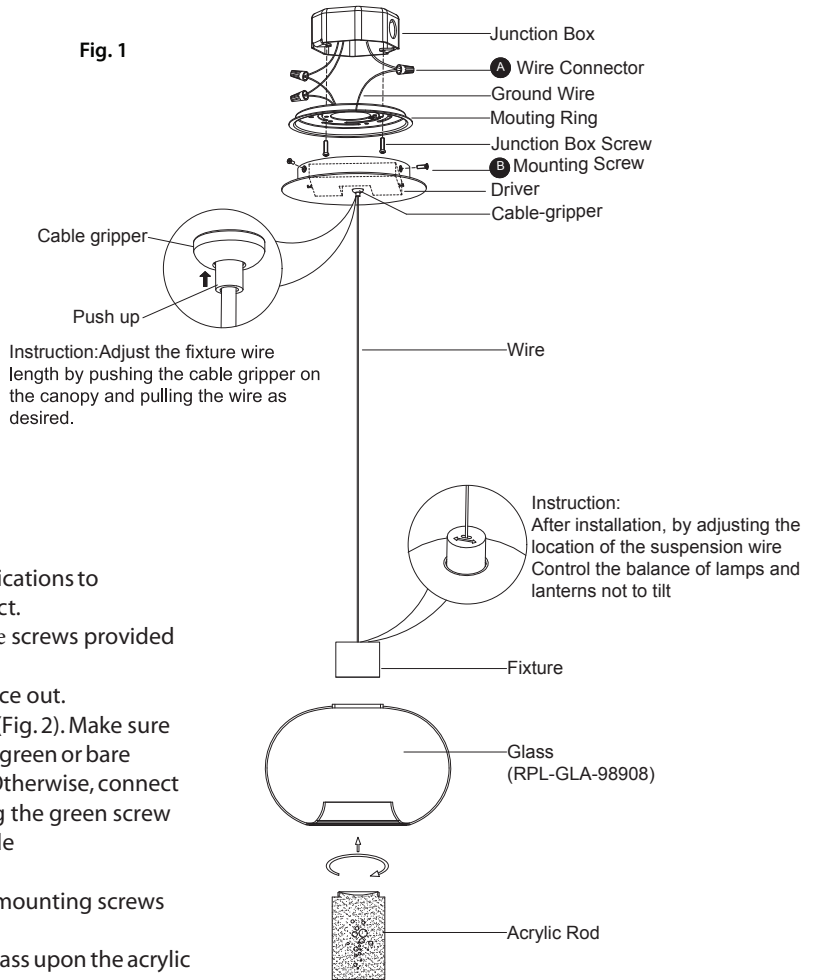

Fig. 2 Wiring
### MOUNTING THE FIXTURE (Fig. 1 & Fig. 2)
3. Remove the mounting screw (B) and back plate from the fixture.
6. Connect the driver's input wires with supply wires as shown (Fig. 2). Make sure that all wire connectors (A) are secure. If your outlet box has a green or bare copper ground wire, connect the fixture's ground wire to it. Otherwise, connect the fixture's ground wire directly to the mounting plate using the green screw provided. After wires are connected, tuck them carefully inside the junction box.
7. Place the fixture over the mounting plate and secure it with mounting screws (B).